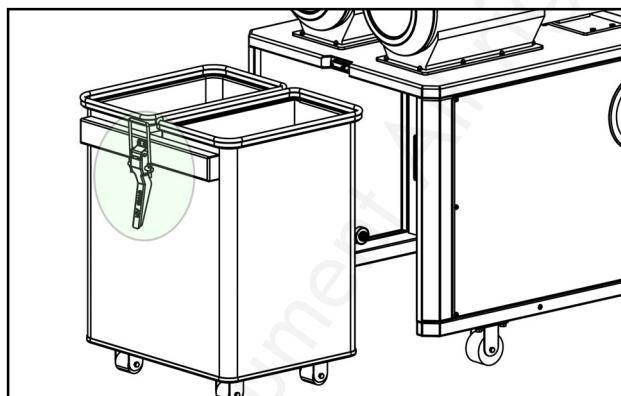

Figure 13
As shown in figure 13 release the handle and pull out the dust bin. After emptying the bin, push the bin back into the end of the cabinet and lock the handle.
6.1 Cleaning dust bin (figure 13)